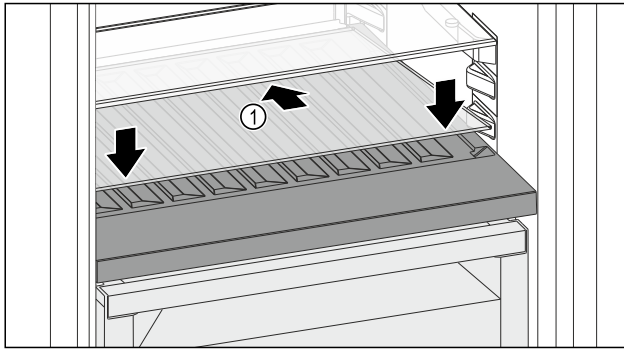

Fig. 138
- Place the glass shelf Fig. 138 (1) at an angle, sloping it downwards and backwards.
- Lower the glass shelf Fig. 138 (1) at the front.